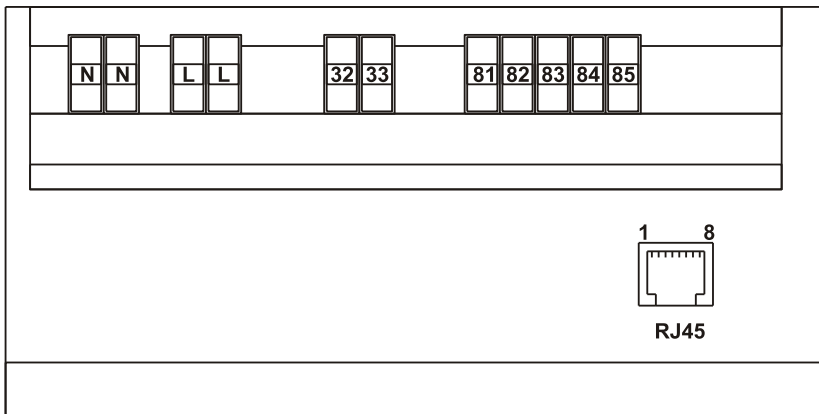

Figure 2: Terminal assignment
- The RTS/CTS jumper must be set if a bus interface (e.g. 20mA/CS, M-Bus, RS485) or a three wired RS232 (GND, TxD, RxD) is used (see Figure 2: Terminal assignment).